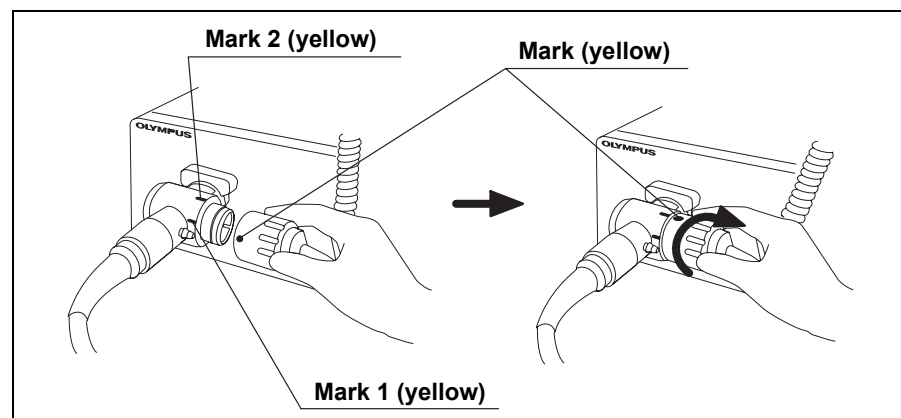

Figure 3.26
5. Align the mark on the videoscope cable EXERA or the videoscope cable 100 with mark 1 on the endoscope connector and push it in until it stops (see Figure 3.26).
6. Turn the connector of the videoscope cable clockwise until it stops (see Figure 3.26).